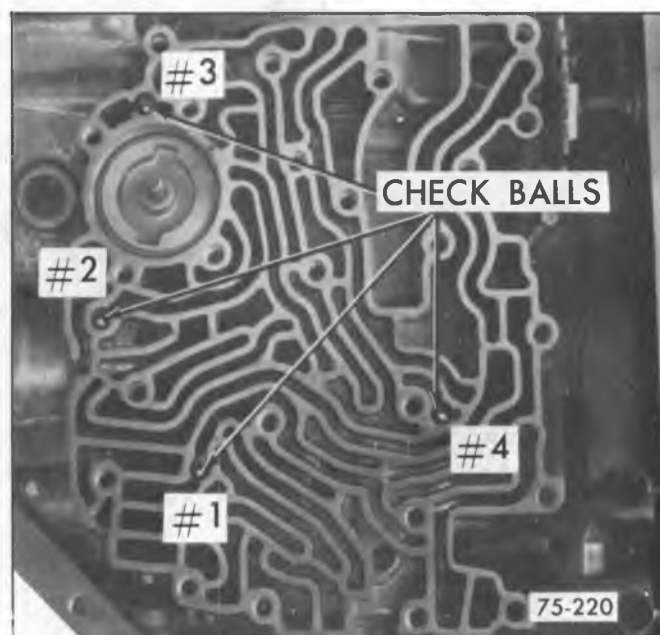

Fig. 16M--Check Ball Four (4) Locations
5. Remove four (4) check balls from correct passages in case face (fig. 16M).